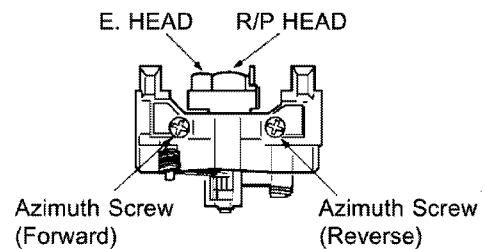

Fig. 3
3. Playback the azimuth adjustment portion (8kHz, -20dB) of test tape (QZZCFM). Adjust the azimuth adjusting screw until the outputs of the L/Rch are maximized. (Refer to Fig. 3)
4. Confirm that the reading of the laser power meter is within the standard value. If the value is out of the range, adjust VR1. (Fig. 3)
6. Adjust VR1 until reading of the laser power meter is within the standard value. (Fig. 3)